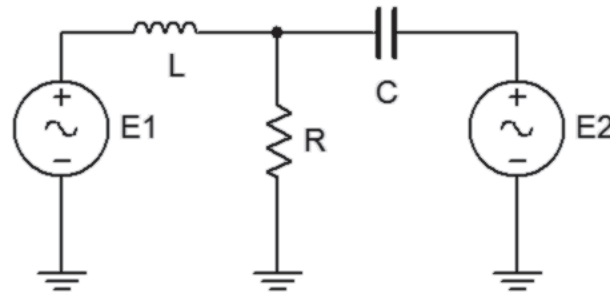

Figure 10.1
1. Typical function generators have a $50\ \Omega$ internal impedance. These are not shown in the circuit of Figure 10.1. To test the superposition theorem, sources $E1$ and $E2$ will be examined separately and then together.
2. Consider the circuit of Figure 10.1 with $C=100\ \text{nF}$, $L=10\ \text{mH}$, $R=1\ \text{k}\Omega$, using only source $E1=2\ \text{V p-p}$ at $1\ \text{kHz}$ and with source $E2$ replaced by its internal impedance of $50\ \Omega$. Using standard series-parallel techniques, calculate the voltages across $E1$, R , and $E2$. Remember to include the $50\ \Omega$ internal impedances in the calculations. Record the results in Table 10.1.
3. Build the circuit of Figure 10.1 using $C=100\ \text{nF}$, $L=10\ \text{mH}$, and $R=1\ \text{k}\Omega$. Replace $E2$ with a $50\ \Omega$ resistor to represent its internal impedance. Set $E1$ to $2\ \text{V p-p}$ at $1\ \text{kHz}$, unloaded. Make sure that the *Bandwidth Limit* of the oscilloscope is engaged for both channels. This will reduce the signal noise and make for more accurate readings. Place probe one across $E1$ and probe two across R . Measure the voltages across $E1$ and R , and record in Table 10.1. Record a copy of the scope image. Move probe two across $E2$ (the $50\ \Omega$), measure and record this voltage in Table 10.1.
4. Consider the circuit of Figure 10.1 using only source $E2=2\ \text{V p-p}$ at $10\ \text{kHz}$ and with source $E1$ replaced by its internal impedance of $50\ \Omega$. Using standard series-parallel techniques, calculate the
6. Consider the circuit of Figure 10.1 using both sources, $E1=2$ V p-p at 1 kHz and $E2=2$ V p-p at 10 kHz. Add the calculated voltages across $E1$, R , and $E2$ from Tables 10.1 and 10.2. Record the results in Table 10.3. Make a note of the expected maxima and minima of these waves and sketch how the combination should appear on the scope
8. Build the circuit of Figure 10.1 in a simulator. Using Transient Analysis, determine the voltage across the resistor and compare it to the theoretical and measured values recorded in Table 10.3. Be sure to include the 50Ω source resistances in the simulation.